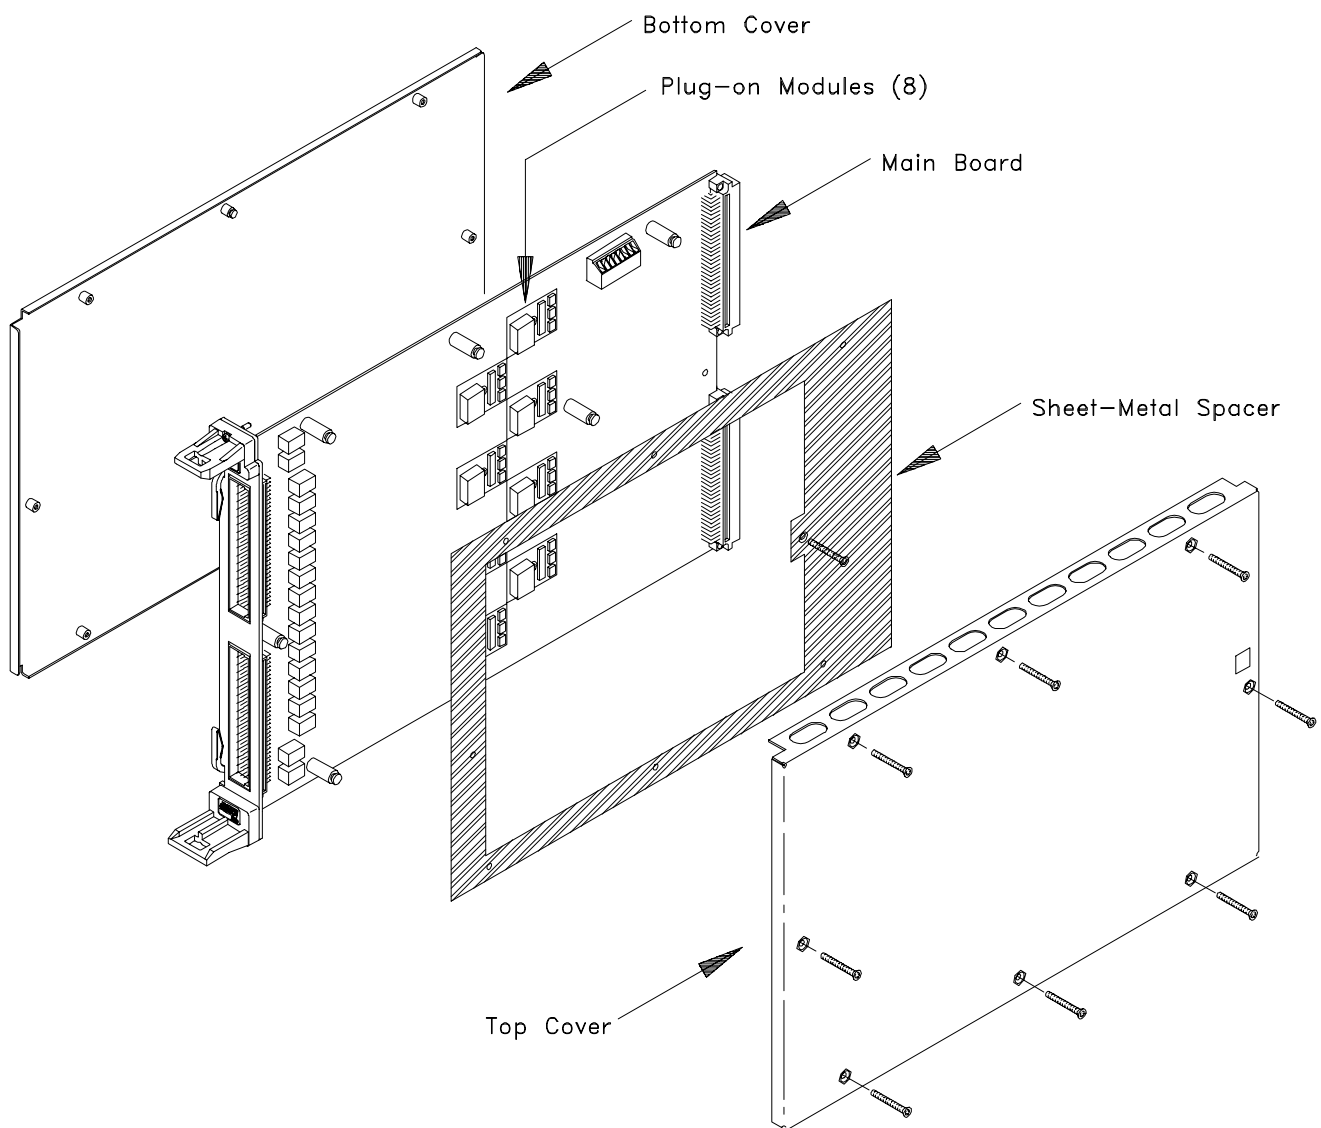
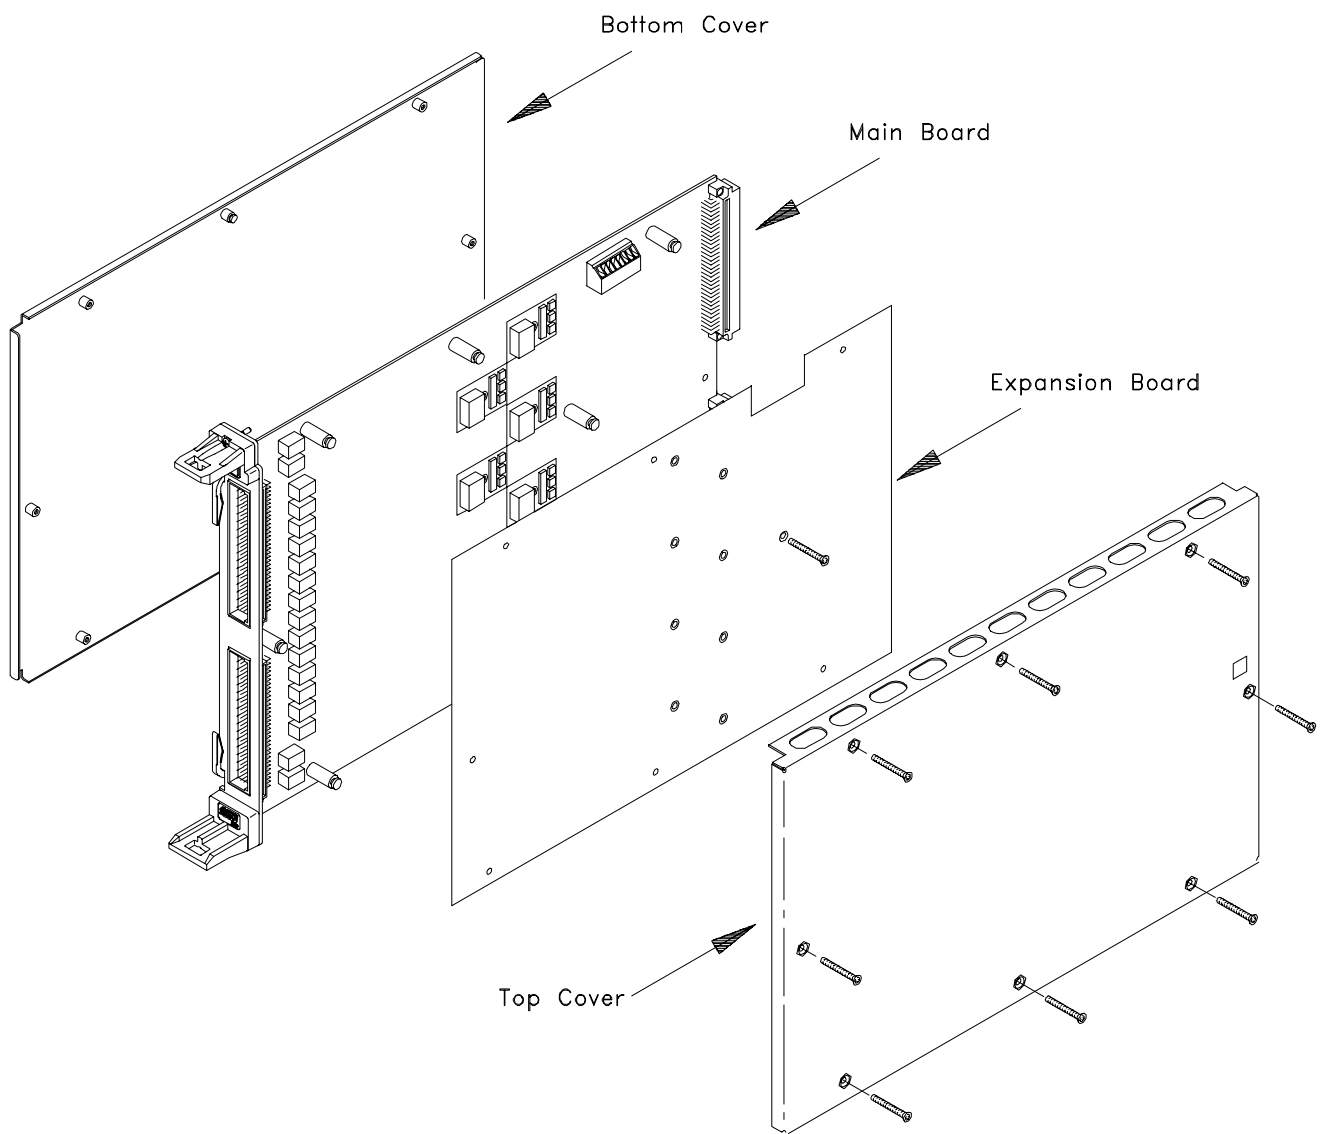

Figure E-1. 8-Channel Disassembly
Figure E-2. 16-Channel Disassembly
Refer to Figures E-1 and E-2 during these procedures.
1. Remove the top cover. Refer to Figure E-1.
3. Place expansion board over the main board, component sides facing each other. Line up the three electrical connectors and carefully press into place. Install the hold down screw through the expansion board and secure with a T10 Torx Driver. Refer to Figure E-2.
Refer to Figures E-1 and E-2 during these procedures
2. Remove the screw holding the sheet-metal spacer (Figure E-1) or expansion board (Figure E-2). Remove the spacer or expansion board.